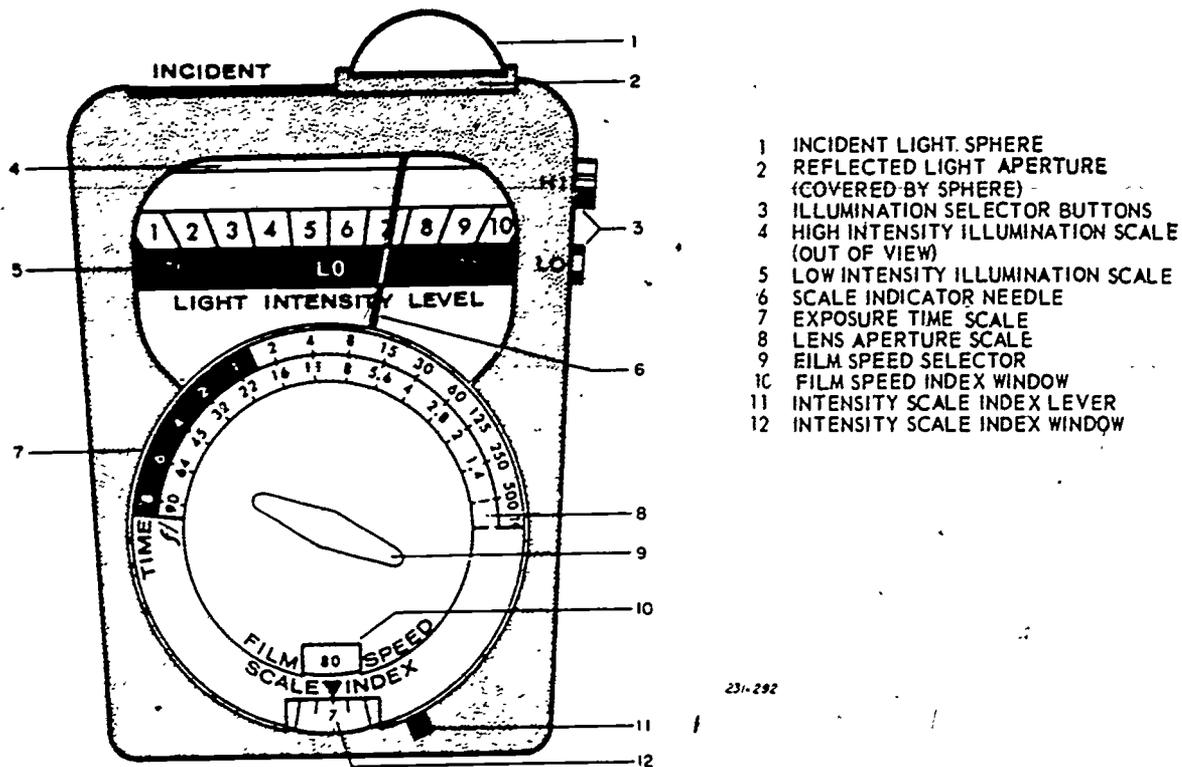

Figure 2-2. A hypothetical exposure meter set for incident light.
Many of the modern exposure meters can give either incident or reflected light readings. Photoelectric exposure meters operate on a common principle and, as shown in figures 2-2 and 2-3, vary primarily in their configuration for use. Light falls on a photoelectric cell which responds by creating electrical current. The cell produces power in direct relation to the intensity of the light it receives and moves a needle that indicates light intensity on a scale for exposure computation. The more light there is, the greater is the deflection of the needle. In addition, the meter has a set of dials which, when set according to the proper film-speed index and the scale reading of light intensity, gives the exposure directly—depending on the shutter speed or diaphragm opening desired.
Figure 2-2 shows the incident-light sphere in place over a window that gathers light for the photoelectric cell. The sphere receives the light from above, below, forward, and the sides. When held at the subject position and pointed toward the camera (as in fig. 2-4), an incident-light meter measures the light falling on the subject.
Reflected-Light Meters. Figure 2-3 illustrates a meter configuration for reading high intensity reflected light. Individual components are identified by the same figures used in figure 2-2. However, you should note that the sphere (1) has been pushed aside to reveal the reflected light aperture (2) forward of the photoelectric cell. The illumination selector (3) has been set for readings on the high-intensity scale (4). Film speed 160 has been set in the index window (10).